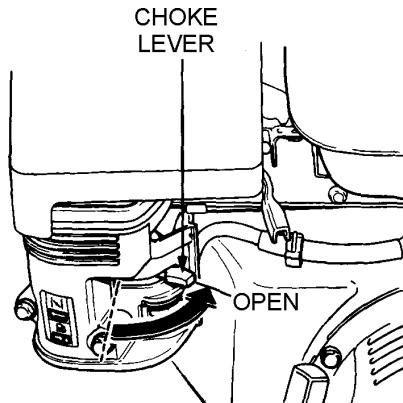

Figure 8. Engine Choke Lever (Open)
3. Place the **choke lever** (Figure 8) in the "**OPEN**" position if starting a **cold engine**.